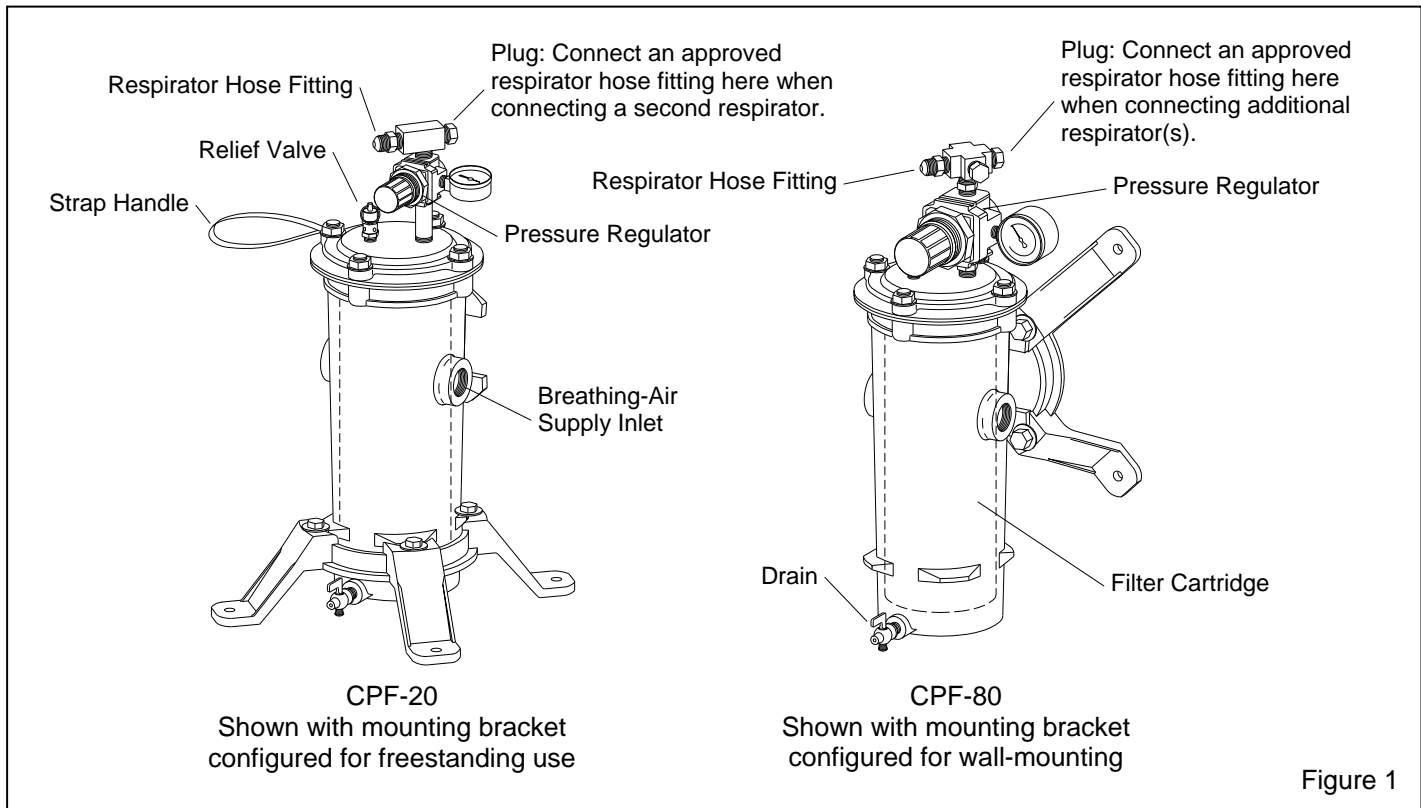

Figure 1
1.4.2 The main components of the filters are shown in Figure 1. The CPF-20 is equipped with an outlet that